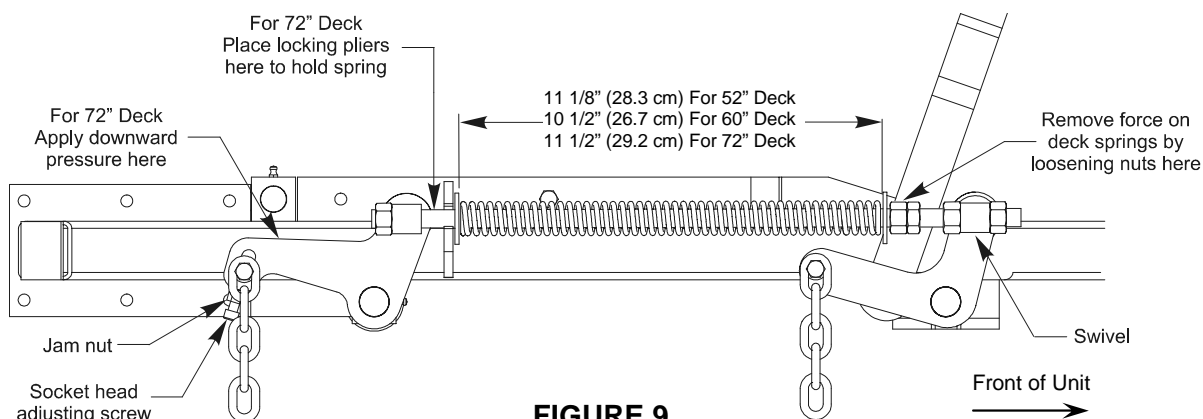

FIGURE 9
- e) Raise the deck to the 5" (12.7 cm) height position (also transport position) and take all force off of the two large deck lift springs by loosening the nuts at the front of each spring. See Figure 9.
For 72" units – Lower the deck to the 1-1/2" (3.81 cm) height position. Force the left rear deck support arm downward about 1/4" (6.4 mm) to get the deck to rest at the 1-1/2" height position. Place locking pliers between the rear swivel and spring stop to hold the deck in this position. See Figure 9.